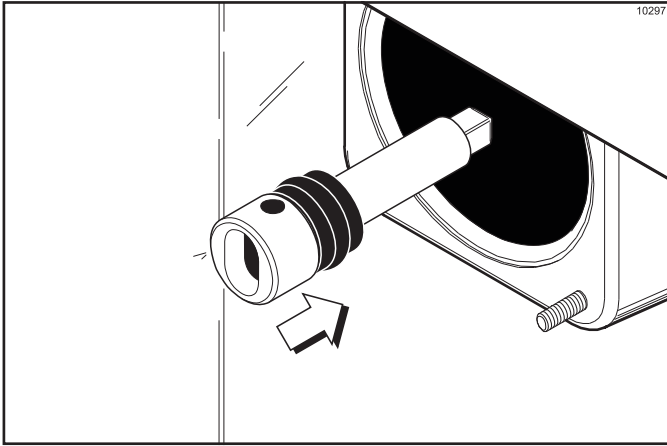

Figure 6-4
2. Install the beater driveshaft through the rear shell bearing in the freezing cylinder and engage the square end firmly into the driveshaft coupling. Make sure the driveshaft fits into the drive coupling without binding. (See Figure 6-4.)